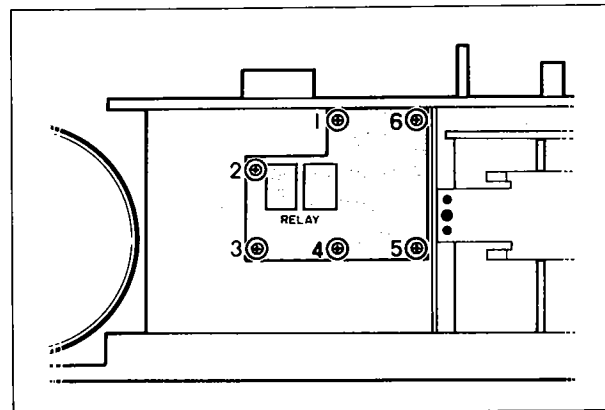

Fig. 3
- b. Remove screws ① through ⑥ in Fig. 3 and remove the relay circuit board.
① through ⑥ : Bind Head Tap-Tyte Screw 3 x 16Bℓ